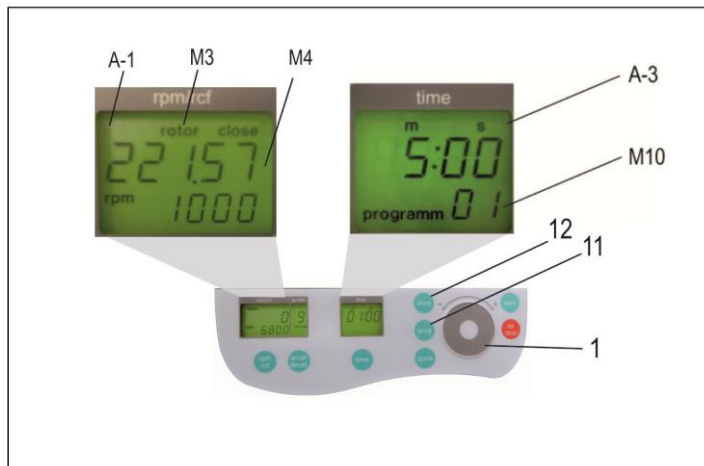

Figure 15
Put the rotor into the centrifuge. By pressing the key, "prog" (11), in the display "time" (A-3) appears the word "program", (see Figure 15). With the control field (1), choose the desired program number.
If a program number is already occupied, in the display "rpm/rcf" (A-1), the words "rotor" (M3) and the rotor number, for example "221.57" (M4) will appear, (see Figure 15). Free program numbers will show "0".